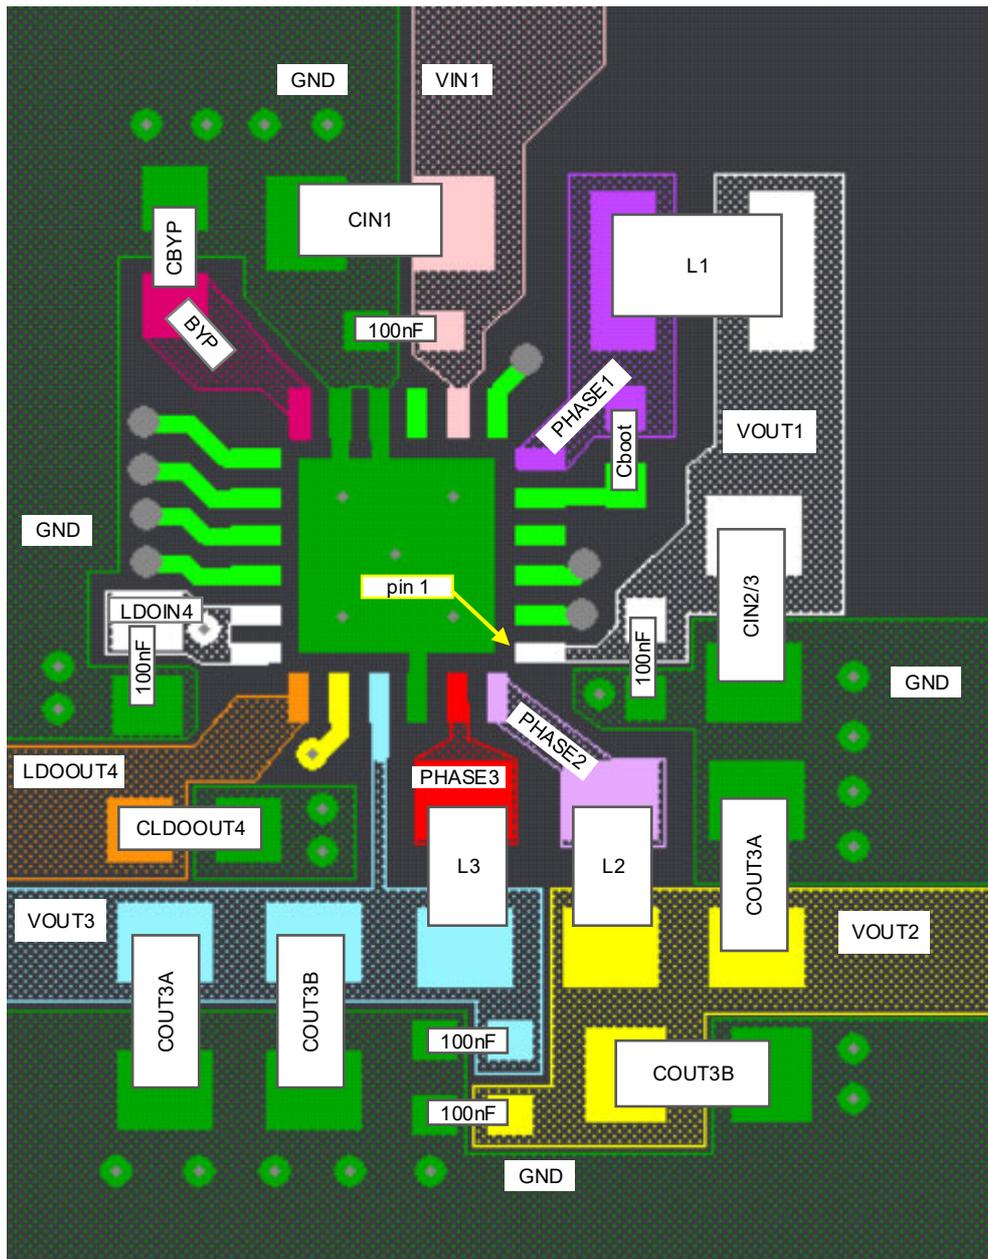

Figure 31. PCB Layout
- Route the feedback for Buck2 on an inner layer, connecting from COUT2 to FB2 (Pin 22). FB2 is a noise-sensitive input. Route the trace so that it avoids passing underneath the inductors L2, L3, or L1, and also avoids passing underneath under the PHASE signals or pins. Renesas recommends routing the trace on an inner layer, going around COUT3, and then routing to Pin 22. VOUT2 (Buck2 output) and the FB2 pin are shown in yellow in Figure 31.
An example PCB layout is shown in Figure 31.